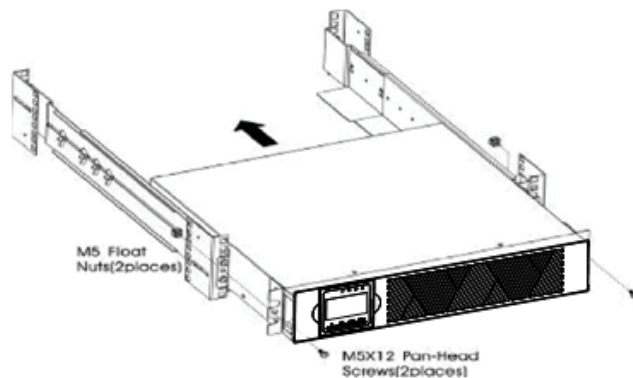

Figure4 Securing the Front of the Cabinet
- l) Secure the front of the UPS to the rack using one M5×12 pan-head screws and one M5 cage nuts on each side(see Figure 4).Install the bottom screw on each side through the bottom hole of mounting bracket and the bottom hole of the rail.